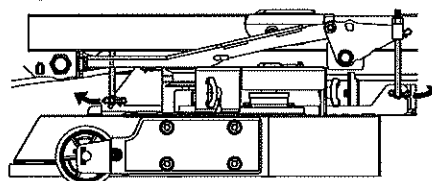

Figure 51
8. Remove the bow-tie pin from the bottom clevis end of each deck height adjust rod. There is one at the front and one at the rear on each side of the deck. See Figure 51 (left side shown).